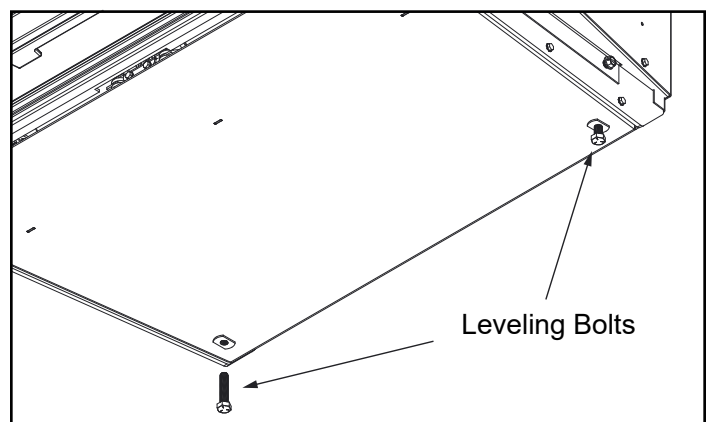

Figure 5.20
1. If needed install and adjust leg levelers as needed. (**Figure 5.20**).